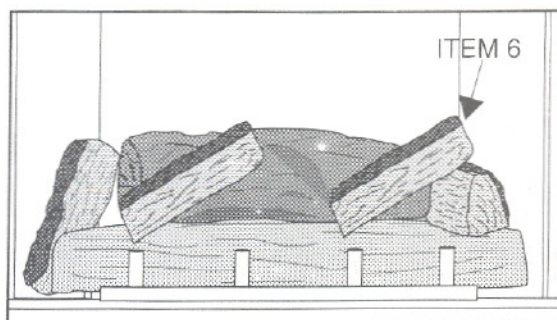

Figure 58
7. See Figure 58. Item 6 is installed next. Position this log with the "bark" toward the rear of the firebox. The left end of the log is placed in the notch on the right of the Front Log and on the right edge of Item 4 (already placed).